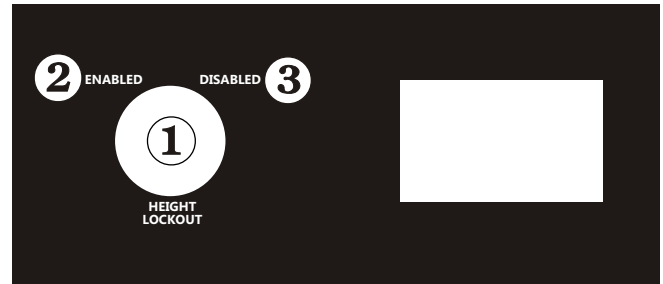

Figure 2 - Key Switch
The key switch ① allows the unit to operate normally so the platform floor height is 12.8m (15m working height) when the **DISABLED** position ③ on the key switch is selected (see on Figure 2).
When the key switch is placed in the **ENABLED** position ② the unit is restricted to a platform floor height of 10.9m (see Figure 2). The key can only be removed in the disabled position thus effectively 'locking' the machine into the restricted mode.